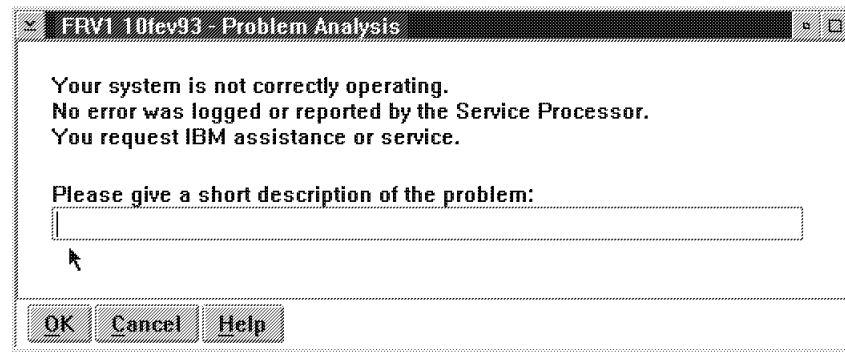

Figure 2-53. Link to RETAIN
4. ____ See Figure 2-53, enter a **short description** "Installing the 3746-950 and testing the RSF link", then click on "**OK**".